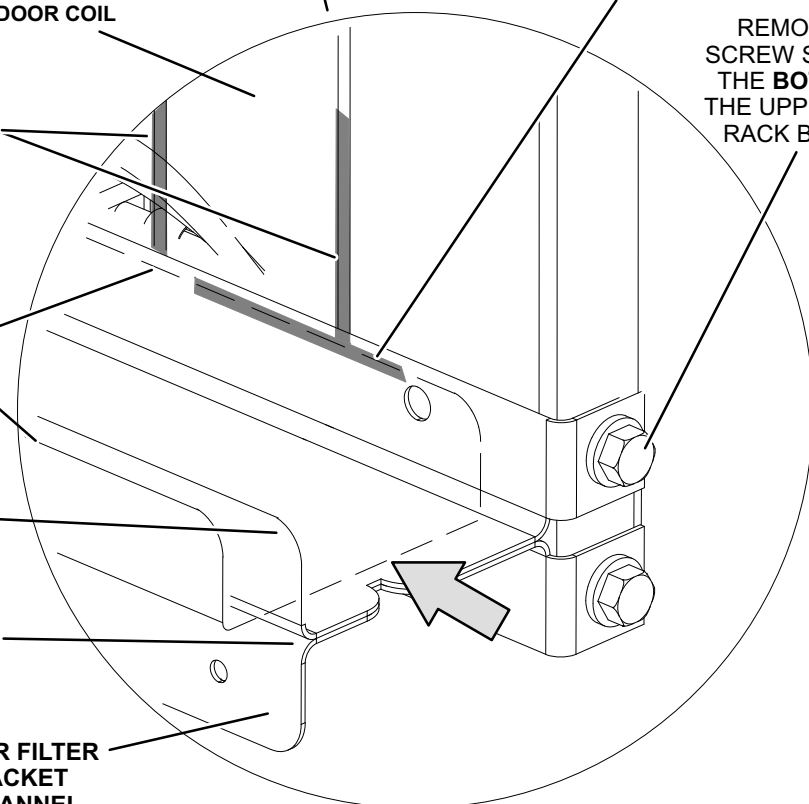

FIGURE 27
The optional, brush-type ionizer produces positive and negative ions to clean air and reduce airborne contaminants. The ionizer was designed to be low maintenance. The device should be checked semi-annually to confirm the brushes are clean for maximum output. The ionizer is located behind the filters. See figure 27.
- 1- Remove filters, screws securing the top and bottom of the upper filter bracket, and the wire ties the screws hold in place. See figure 27.